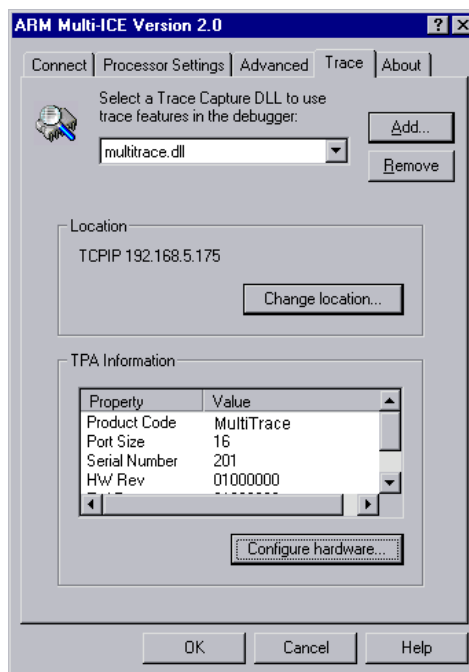
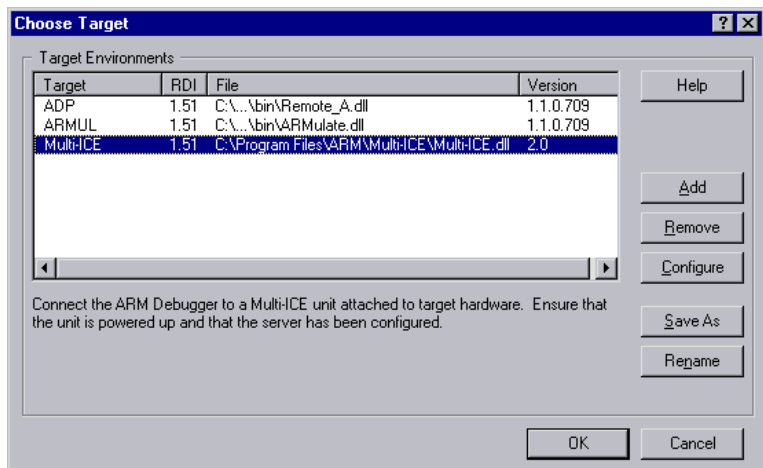

Figure 3-4 MultiTrace unit selected
Figure 3-6 Click OK to close dialog
- i. Click **OK** to close the Multi-ICE dialog (see Figure 3-4 on page 3-4) and then click **OK** to close the Choose Target dialog (see Figure 3-6).